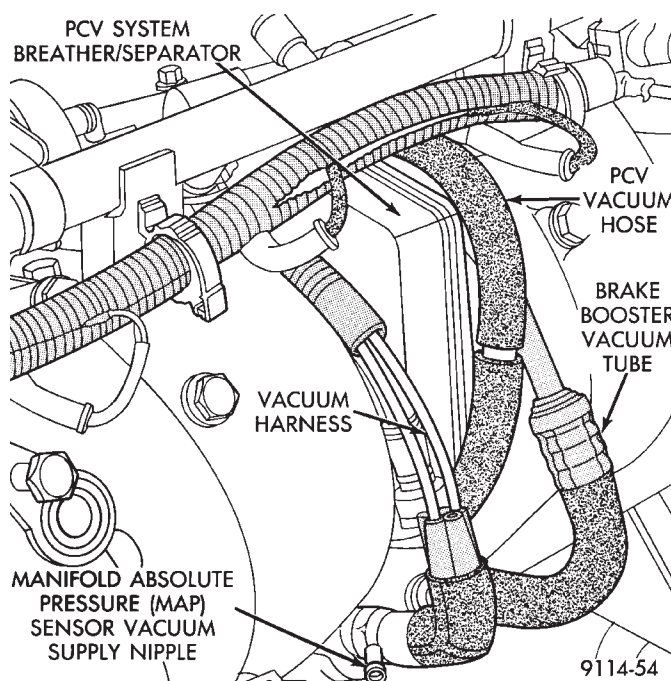

Fig. 15 Intake Manifold Vacuum Connections
(21) Verify all hose connections at the intake manifold are secure (Fig. 15).